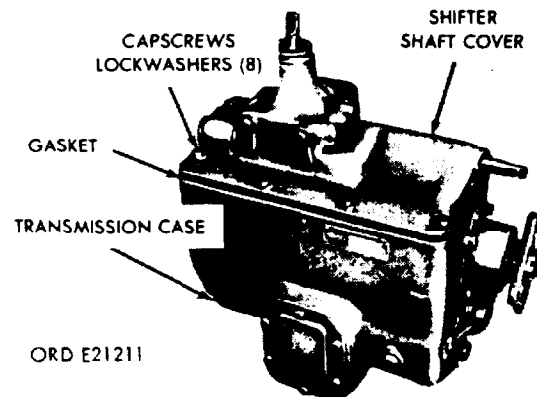

Figure 3-19. Removal of Shifter Shaft Cover.
b. *Shifter Shaft Cover.* Position the transmission shifter shaft in neutral. Remove the eight capscrews and washers securing the shifter shaft cover, and lift straight up to clear transmission case; discard the cover gasket (See fig. 3-19.)